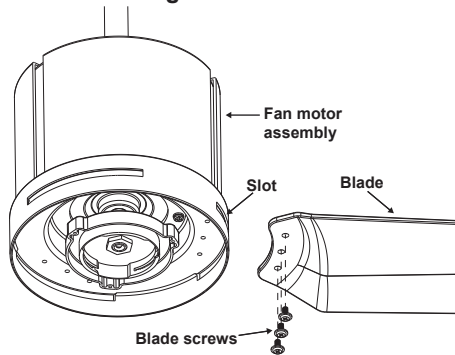

Figure 14
Step 2. Insert the blades through the slots on the fan motor assembly. Attach the blade to the fan motor assembly using three blade screws. Attach the other blades to the fan motor assembly. (Fig. 14)